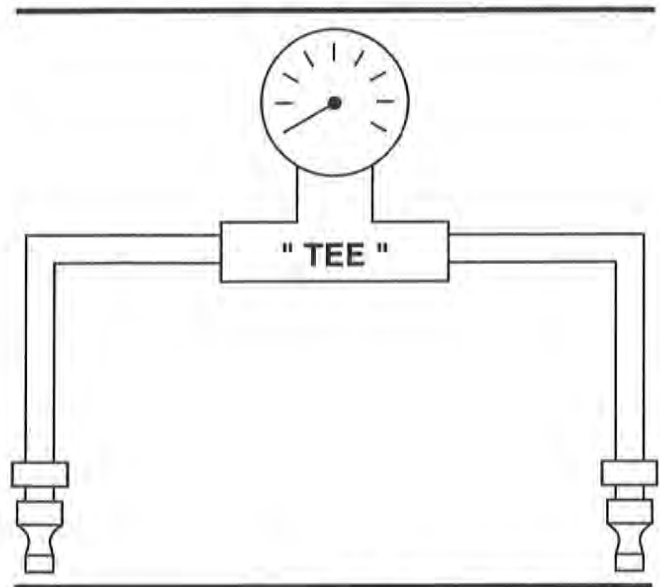

FIGURE 5-20:
1. Cooling Unit Pressure Test Fixture SK3743 (see Figure 5-20);